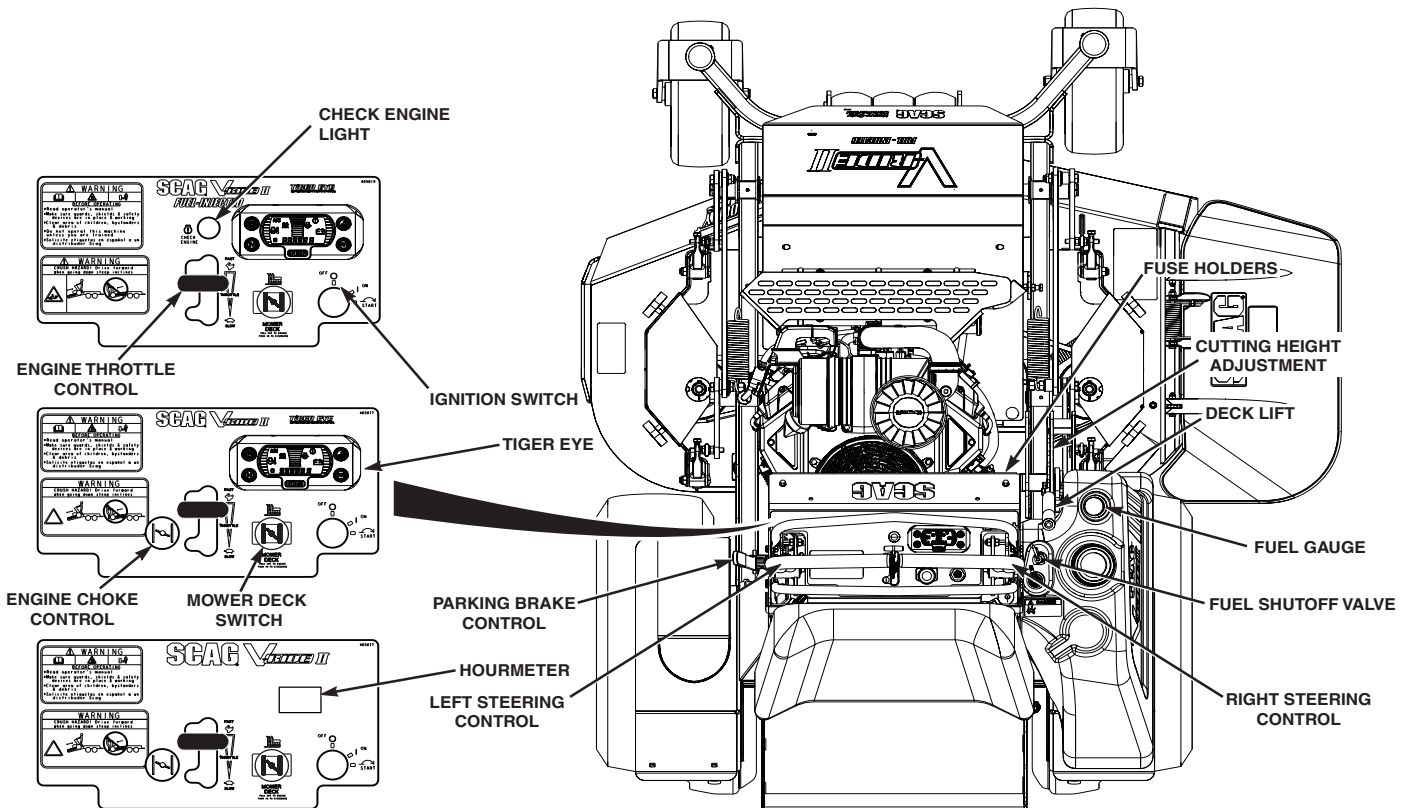

Figure 4-2. Controls and Instruments
1. **Ignition Switch (Figure 4-2).** For electric start models, the ignition switch is used to start the engine and has three positions; OFF, ON, and START. For recoil start models, turn the key to the on position before pulling the recoil starter.
2. **Mower Deck Switch (Figure 4-2).** Used to engage and disengage the mower drive system. Pulling up on the switch will engage the deck drive. Pushing down on the switch will disengage the deck drive.
3. **Engine Choke Control (Figure 4-2).** Used to start a cold engine.
4. **Engine Throttle Control (Figure 4-2).** Used to control the engine speed. Pushing the lever forward increases engine speed. Pulling the lever back decreases engine speed. Full back position is the IDLE position. Full forward is the cutting position.
5. **Check Engine Light (Figure 4-2).** Indicates the operation of the engine sensors on the Fuel Injection Engines (EFI). If a problem occurs with a sensor on the engine, the light will flash a code. See your authorized Scag Dealer for diagnosis and repair.
6. **Left Steering Control (Figure 4-2).** Used to control the mower's left wheel when traveling forward or reverse. See Section 4.5 for further details regarding the mower's travel controls.
7. **Right Steering Control (Figure 4-2).** Used to control the mower's right wheel when traveling forward or reverse. See Section 4.5 for further details regarding the mower's travel controls.
8. **Parking Brake Control (Figure 4-2).** Used to engage and disengage the parking brakes and lock the steering handles in neutral. Pull the lever back to engage the parking brakes. Push the lever forward to disengage the parking brakes.
9. **Deck Lift Lever (Figure 4-2).** Used to raise and lower the cutter deck.
10. **Cutting Height Adjustment (Figure 4-2).** Used to set the cutter deck at the desired cutting height.
11. **Fuel Tank Gauge (Figure 4-2).** Indicates the amount of fuel in the fuel tank.
12. **Fuse Holders (Figure 4-2).** Two 20-amp fuses protect the mower's electrical system. To replace fuses, pull fuse out of the socket and install a new fuse.
13. **Hourmeter (Figure 4-2) SVR11-36A Only.** Indicates the number of hours the engine has been operated. It operates whenever the engine is running. Has preset maintenance reminders for engine and hydraulic system oil changes. Will start flashing scheduled maintenance 2 hours before preset time and continue flashing until 2 hours after. Automatically resets
14. **Fuel Shutoff Valve (Figure 4-2).** Located on top of the fuel tank. Used to shut off fuel supply to the engine. Rotate the valve counter clockwise to supply fuel from the tank to the engine. Rotate the valve clockwise to shut off the fuel supply to the engine.